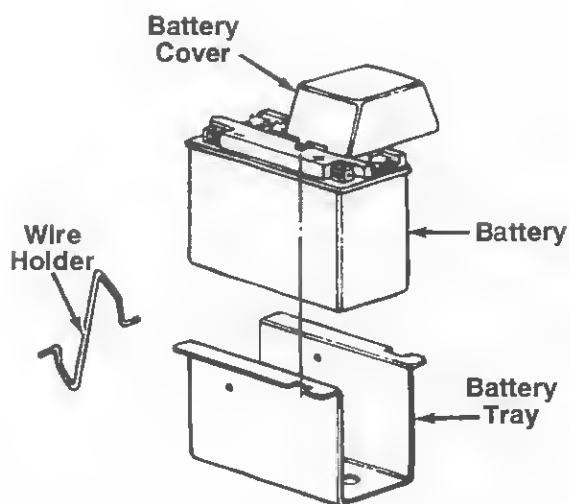

FIGURE 3.
1. Lift the seat. Remove the battery cover by pressing in on the sides and lifting up. See figure 3. Remove the battery from the rear frame.
6. Replace the battery cover over the positive terminal. Refer to figure 3. (Both the positive and negative cable must fit under the battery cover). Lower the seat.